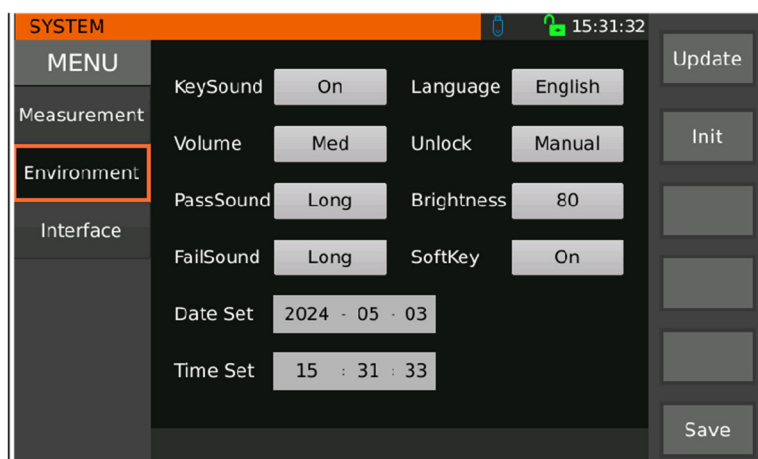

Figure 3-8 System Environment Parameter Settings
2. Select by ▲, ▼ arrow keys or knob or directly touch the screen to enter the environment related system setting interface shown in Figure 3-8.
3. Move the cursor to the parameter item you want to set to change the parameter setting. The environment-related parameter settings in the system setup are shown in Figure 3-8.